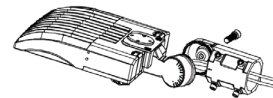

Fig. 1
1. Remove the bracket mounting screws on the fixture and run the wires through the bracket (Fig. 1).